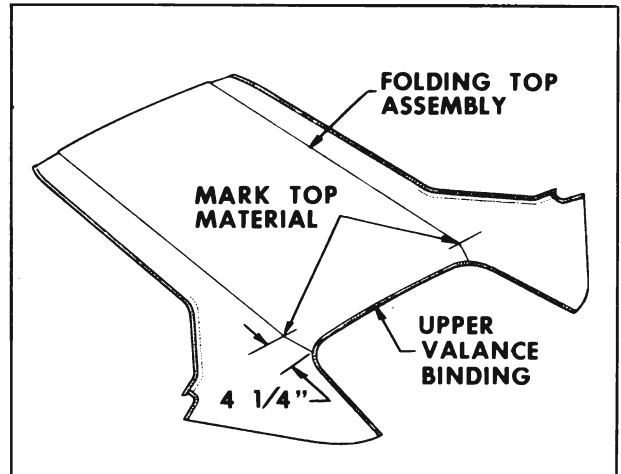

Figure 7-42—Marking Top Material
22. Using a pencil, mark top material (mark should be approximately 1/2" in length) at deck seam 4-1/4" from edge of top material upper valance binding (see Figure 7-42).